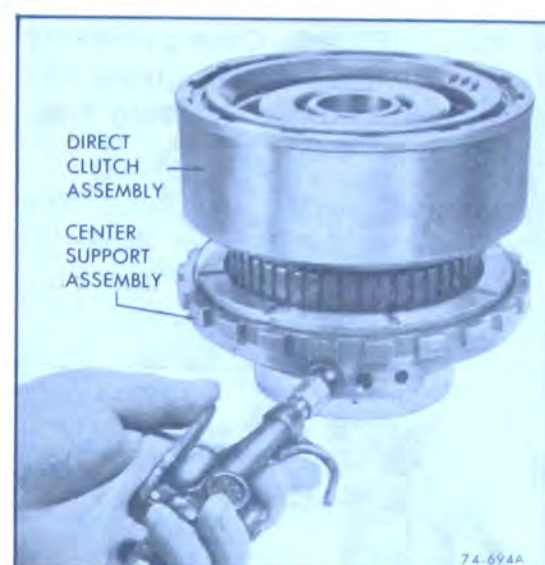

Figure 74-695
17. Place direct clutch assembly over center support and air check operation of direct clutch. See Figure 74-695.